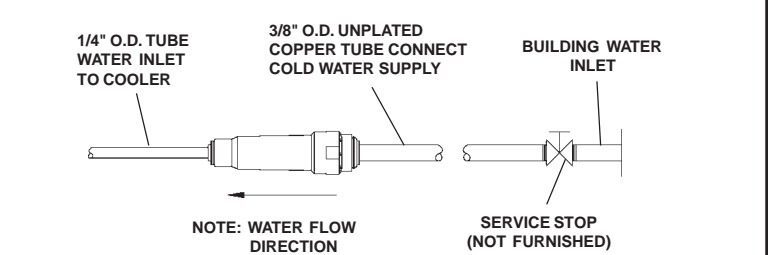

FIG. 5
5. **Connect** the fountain to the supply line with a shut off valve and install a 3/8" (10mm) water line between the valve and strainer. Push the tubes straight into the fittings until they reach a positive stop, approximately 3/4". See Figs. 5 and 6. **DO NOT SOLDER TUBES INSERTED INTO THE STRAINER AS DAMAGE TO THE O-RINGS MAY RESULT.**
10. **Stream** height is factory set at 35 PSI. If supply pressure varies greatly from this, turn adjustment screw on regulator (item 23). Clockwise adjustment will raise the stream height and counter-clockwise adjustment will lower stream height. For best adjustment, stream should hit basin approximately 6-1/2" from the bubbler.